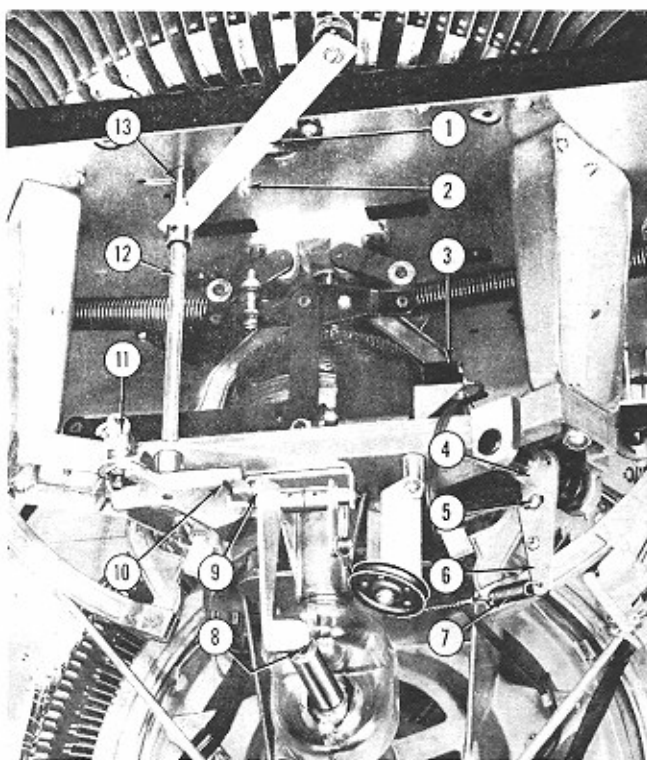

Fig. 68. SETTINGS FOR LOADING SWITCH CAM
m. Setting for Loading Switch Cam. (Fig. 68)
After assembly of the selector crank and shaft, the loading switch cam and release lever group may be adjusted. The main cam should be in its "at rest" phase of the cycle. The pin on the cancel arm assembly (Item 9, Fig. 68) should be located on the flat position of the release cam (Item 10) and the loading switch (Item 11) should be actuated to its closed position by the lug on the heel of the cam.
(1) In this position set the release lever (Item 1) against the stop pin (Item 2) and tighten the set screws in the hub of the release lever.
(2) When the release lever is pulled forward to the loading position, the pin in the cancel arm (Item 9, Fig. 68) should fall in the detent of the loading cam (Item 10) and hold there. At the same time, the loading cam should engage and throw the loading switch to its open position. Care should be exercised in making the above adjustment to avoid using the switch as a stop in either direction.
o. Cancel Arm Setting. (Fig. 68)
The selector crank and shaft being assembled, the cancel arm assembly (Item 4, Fig. 68) may be adjusted.